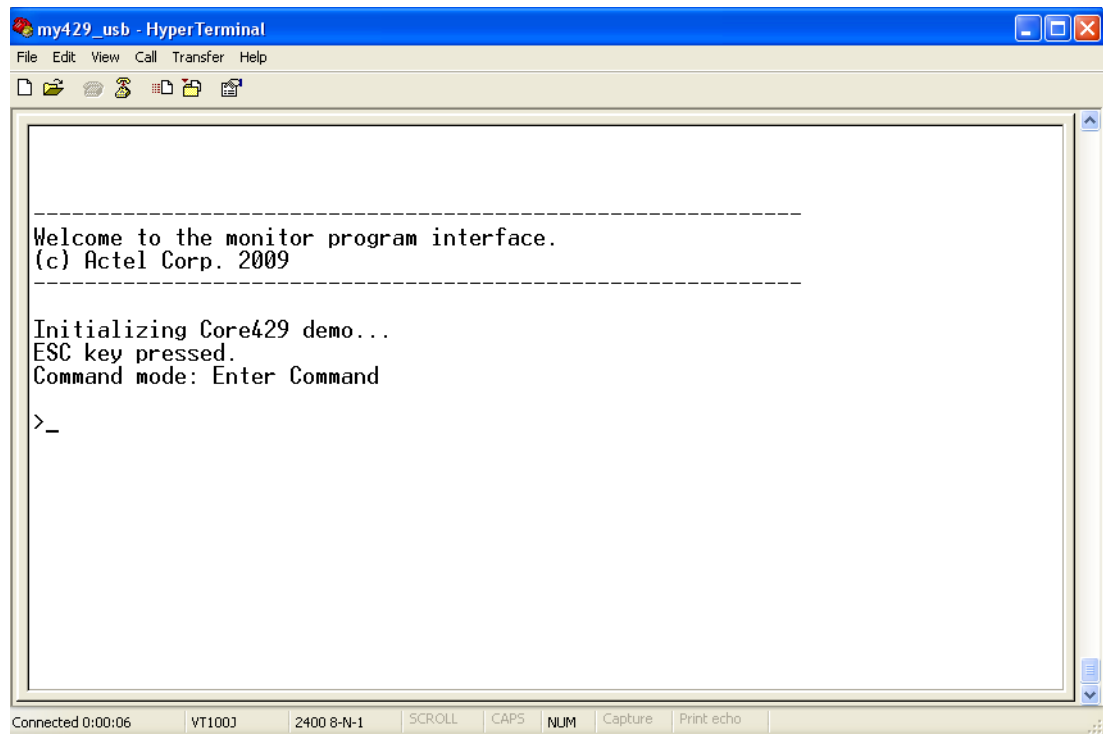

Figure A-4 • HyperTerminal Window
16. Core8051 will start running and the demo design will display a message. Press **Esc** to enter the command prompt on HyperTerminal (Figure A-4).